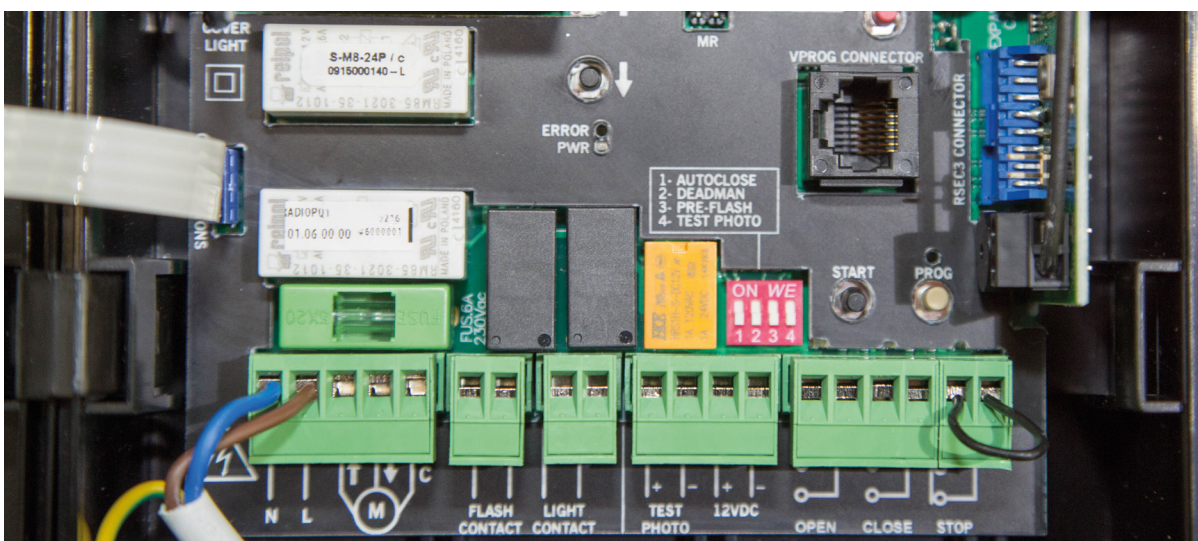

fig.5
- 6 Remove the green 5 terminal block in the bottom left corner (**fig.5**) and you will see letters printed on the circuit board.
Remove black link wire from far right hand side stop terminal, and replace with Brown (2 core cable) and Blue (2 core cable), one each side (**fig.5**).
- 9 There is a four dipswitch block at the bottom middle of the receiver board (usually blue or red). Slide dipswitch 2 into the up position (**fig.5**).
- 1 Press and hold the bottom close button on the receiver board (**fig.5**). This is located at the bottom right corner of the yellow transformer and the barrel should start turning in the downwards direction. Should the barrel be turning in the upward direction, swap motor wires black to U and brown to V.